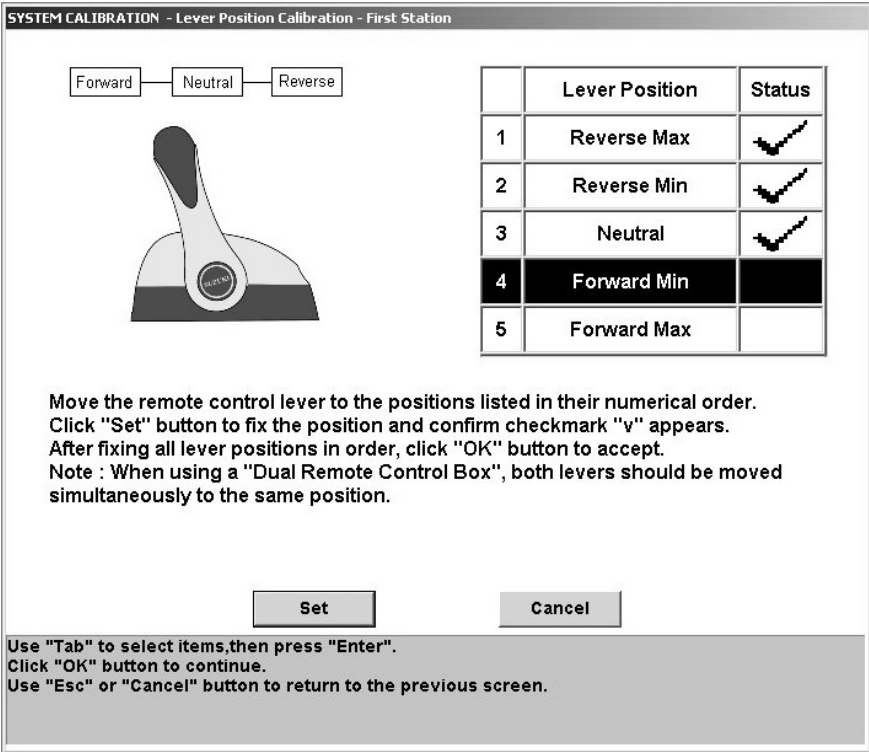

Fig.94
7. The following window (Fig.94) appears. This window is used to register the position of the remote control lever in the BCM.